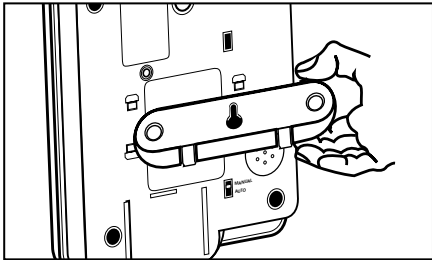

Figure 7 - Mounting Bracket for Wall Mounting
2. Insert the tabs of the phone base into the slots in the lower position of the base as shown in Figure 7. Push the mounting bracket in and down firmly until it snaps into place.